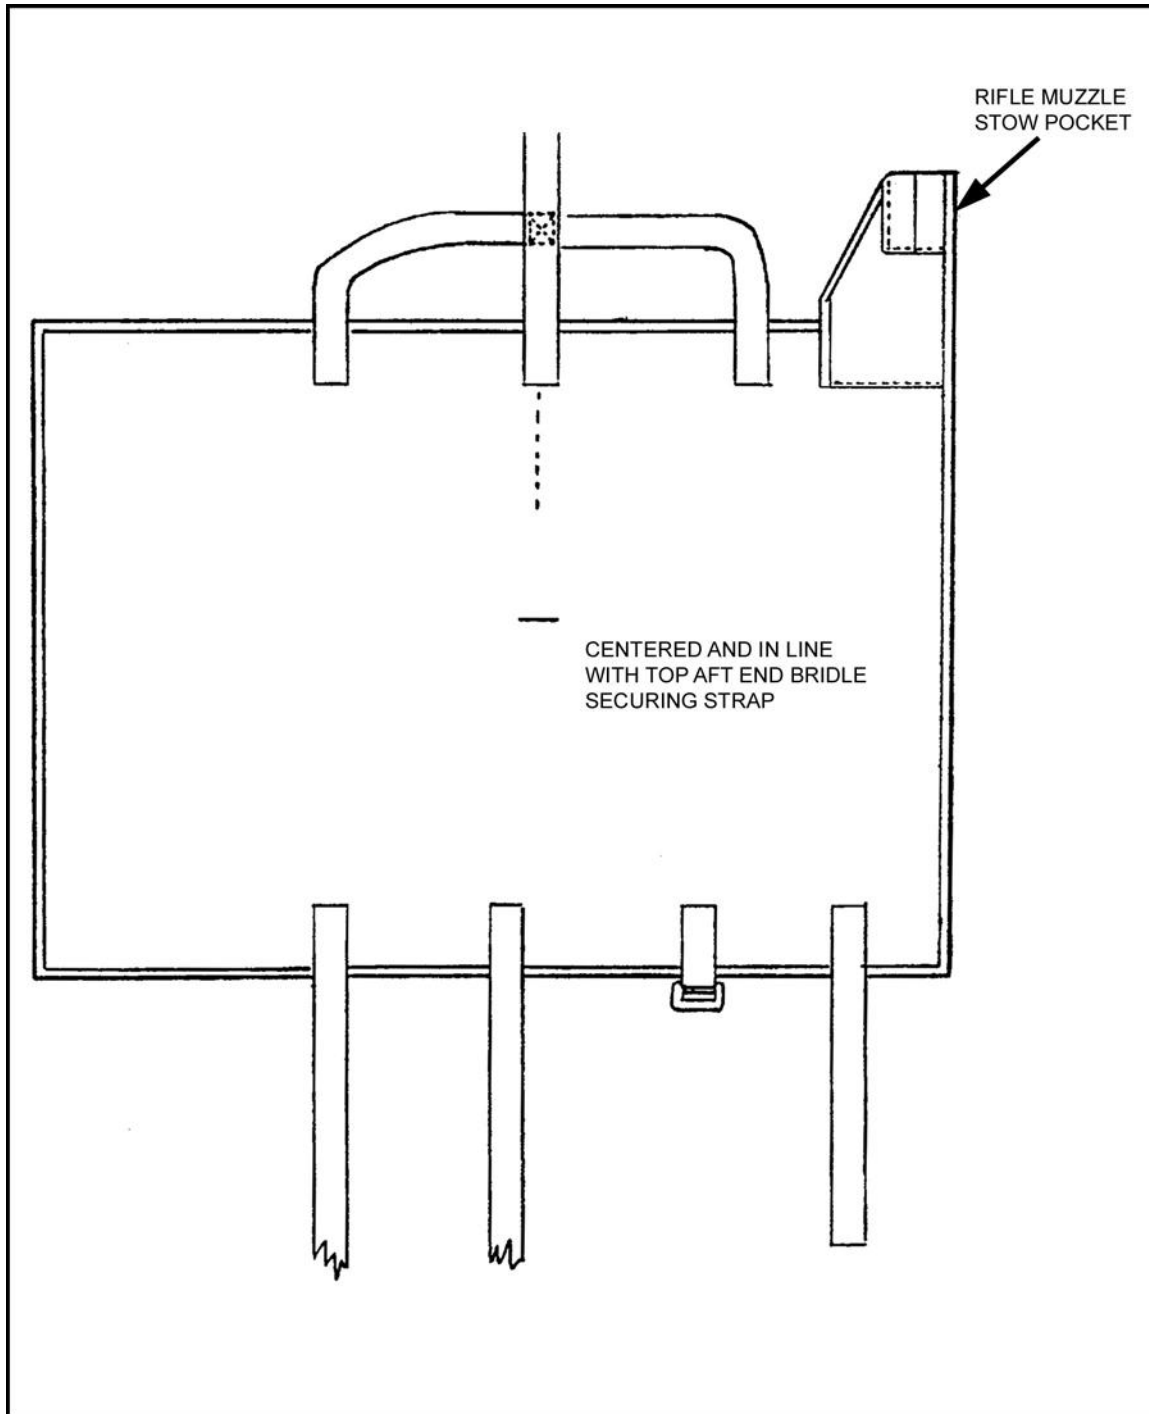

Figure 12-60. Marking the center of the DMJP.
a. Lay the DMJP for modification flat, felt side up. Using a suitable marker, make a mark at the center of the pack and in line with the aft end bridle securing strap at the top of the DMJP (Figure 12-60).